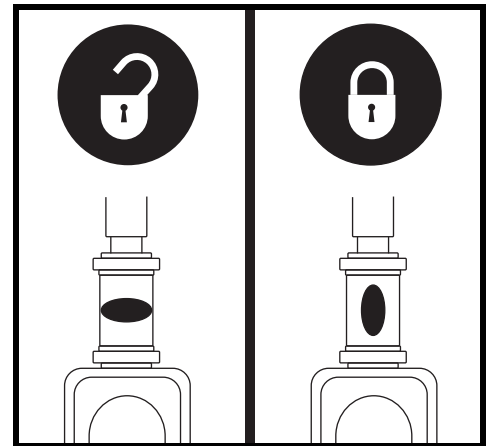

Figure 25. Tiller Lock Knob
2. Lock the tiller in the straight ahead position by pushing the tiller lock knob in and turning it clockwise 90°. See **figure 25**. The front wheel must face forward in order to lock the tiller.
1. Lock the tiller in the straight ahead position by pushing the tiller lock knob in and turning it clockwise 90°. See **figure 25**. The front wheel must face forward in order to lock the tiller.
6. Unlock the tiller by turning the tiller lock knob 90° counterclockwise. See figure 25.